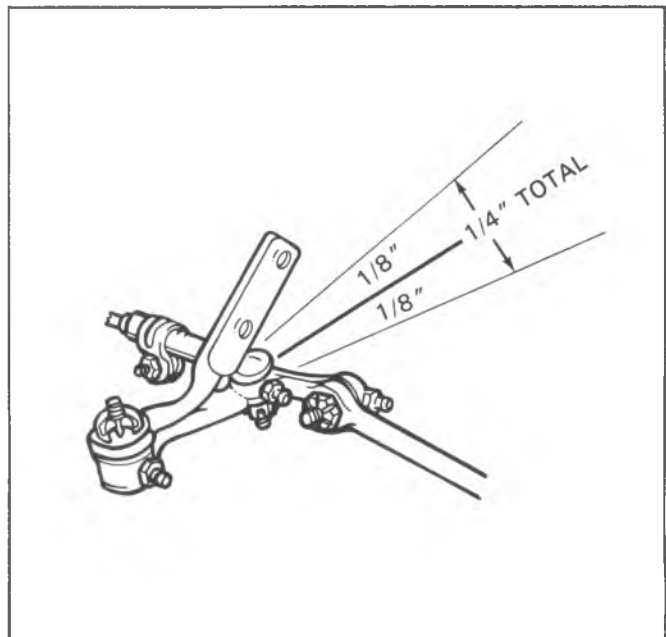

Fig. 3B1-10--Checking Idler Movement, Typical
2. Install the relay rod to the idler arm and pitman arm ball studs, making certain the seals are in place. Use J-23193 or J-23194 to seat the tapers, as shown in Fig. 3B1-6. A torque of 20 N·m is required. With the tapers seated, remove the tool. Install and tighten a torque prevailing to 54 N·m (40 ft. lbs.).
2. Using a push pull type spring scale located as near the relay rod end of the idler arm as possible, exert a 25 lb. force upward and then downward while noticing the total distance the end of the arm moves. This distance should not exceed  $\pm 1/8$  inch for a total acceptable movement of 1/4 inch (Figure 3B1-10). It is necessary to ensure that the correct load is applied to the arm since it will move more when higher loads are applied. It is also necessary that a scale or ruler be rested against the frame and used to determine the amount of movement since observers tend to over-estimate the actual movement when a scale is not used. The idler arm should always be replaced if it fails this test.
2. Remove the nut from ball stud at the relay rod. Remove the ball stud from the relay rod by tapping on the relay rod boss with a hammer, while using a heavy hammer as a backing (Fig. 3B1-7).